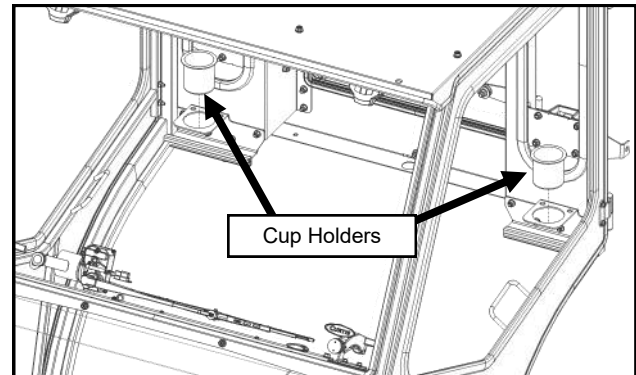

Fig. 26.2 (Install Cup Holders)
- 26.2** Install both cup holders into the rear of the side frames by just dropping them in place. See Figure 26.2.